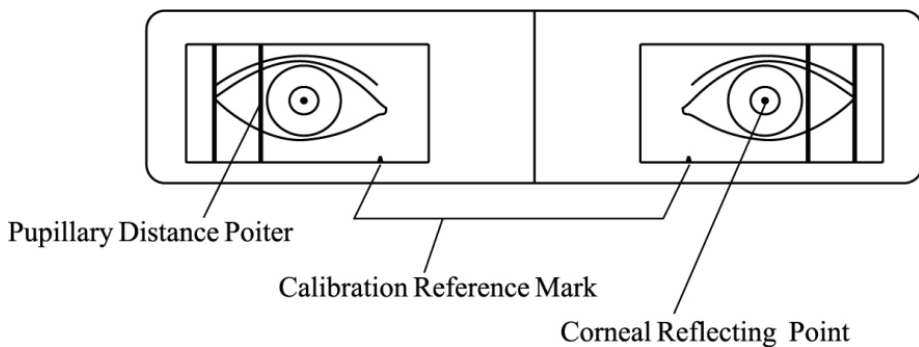
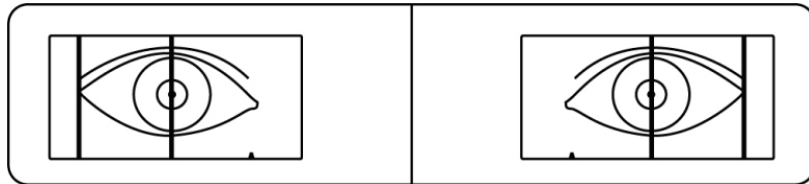

Fig. 7a (The sight the tester observes through measuring window)
Fig.7b (The left and right pointers coincide with the reflecting bright dots)
d. The tester observes the reflecting light spot on the testee's pupil through measuring window. Slide the Left and Right Pupillary Measuring Keys, the left and right pupillary distance pointers will coincide with the reflecting light spots of the testee's left and right pupils, respectively(as shown in Fig.7a and Fig.7b ). The data shown in the display window are the measured pupillary distance.